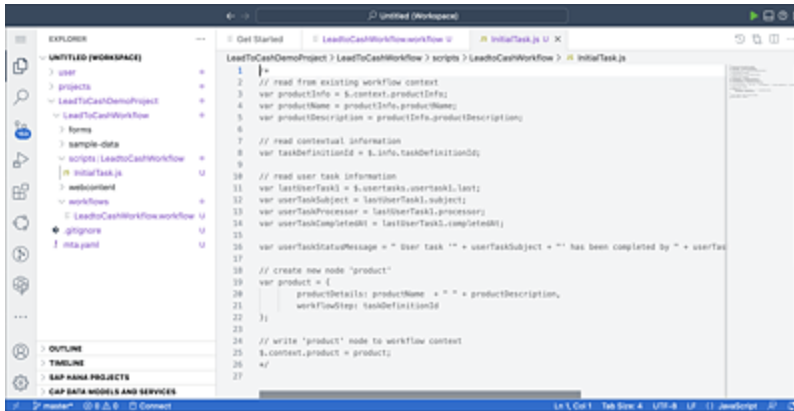

Figure 18.11 Write the Data Handling Logic in the .js File
3. You can now write your logic in this JavaScript file, as shown in Figure 18.11.